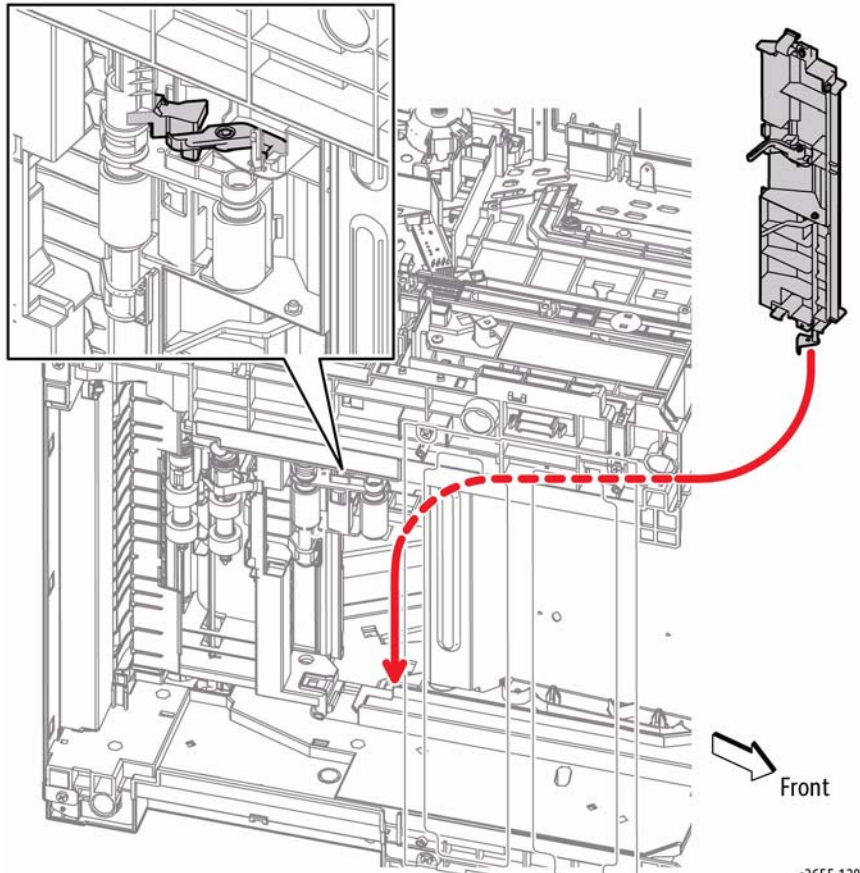

Figure 6 Install the Top Frame Assembly
2. Refer to Figure 6 when installing the Top Frame Assembly. Align the Bypass Tray No Paper Sensor Actuator coupled with the Top Frame Assembly so it fits into the hole on the printer and the Lock MSI In connects with the Pick Up Holder Assembly.